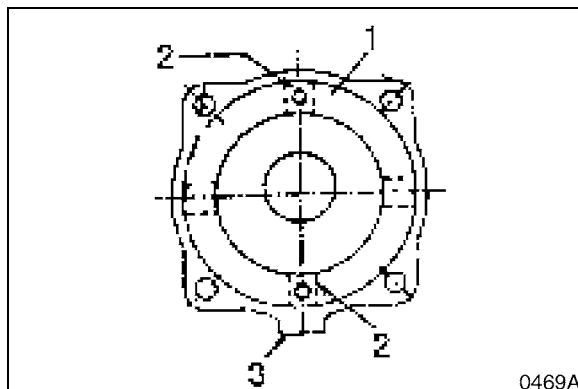

Figure 41
14. Position brake piston (1, Figure 41) in casing. The diagram shows position of four piston grooves (2) in relation to valve connected side (3), and two 8 mm bolts which should be tightened in an even, progressive rotation.